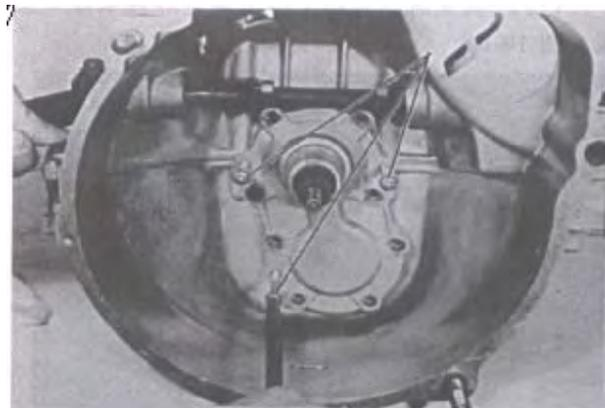
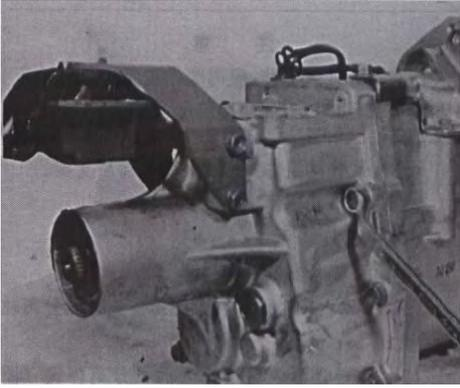

Fig 10-14
Fig 10-15
- (2) Remove input shaft bearing retainer bolts and pull out retainer (FIG.10-14)
- (3) Remove gear shift lever case and speed meter driven gear case.
- (4) Remove bolts securing extension case to transmission case and take off extension case. (FIG.10-15)